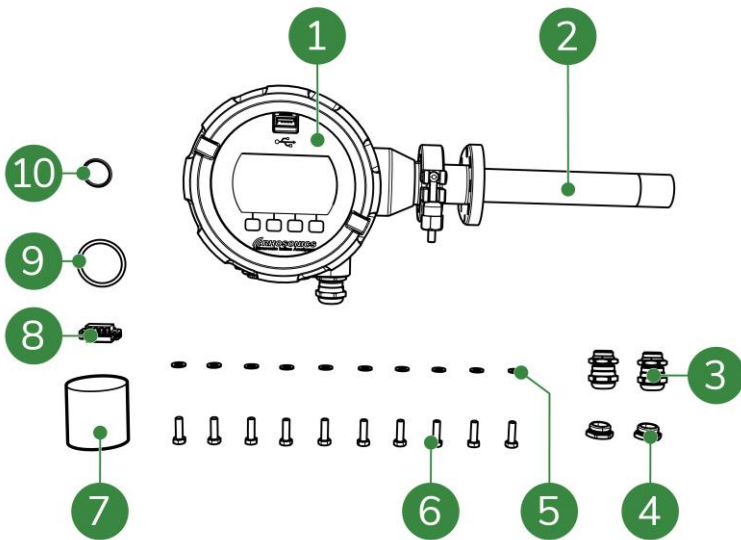

Figure 5-1: SDM packaging contents
- Transmitter (Figure 5-1, pos. 1);
- Sensor (Figure 5-1, pos. 2);
- 2x Cable glands for \varnothing 2-6 mm cable (Figure 5-1, pos. 4);
- 2x Blind plug (Figure 5-1, pos. 5);
- 1x O-ring for sensor contact (Figure 5-1, pos. 11);
- 1x O-ring for sensor flange (Figure 5-1, pos. 10);
- 1x PT100 connector (Figure 5-1, pos. 9);
- 10x Bolts and 10x washers for sensor flange (Figure 5-1, pos. 6 and 7);
- 1x Yellow protection cover (Figure 5-1, pos. 8).